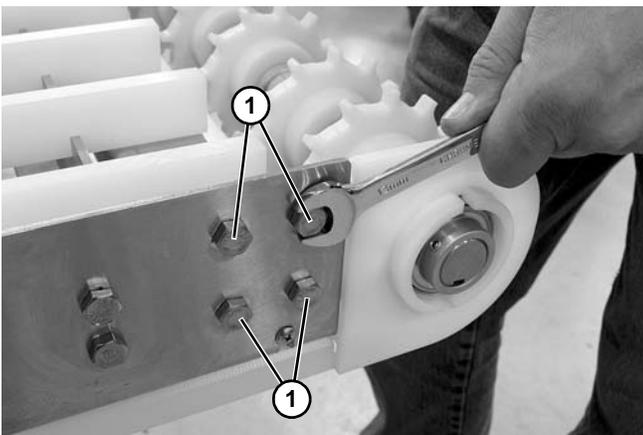

Figure 46
4. Remove the four headplate bolts (Figure 46, item 1) on both sides of the conveyor.